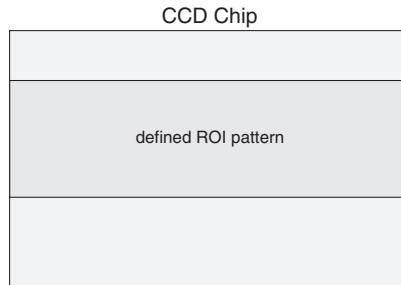
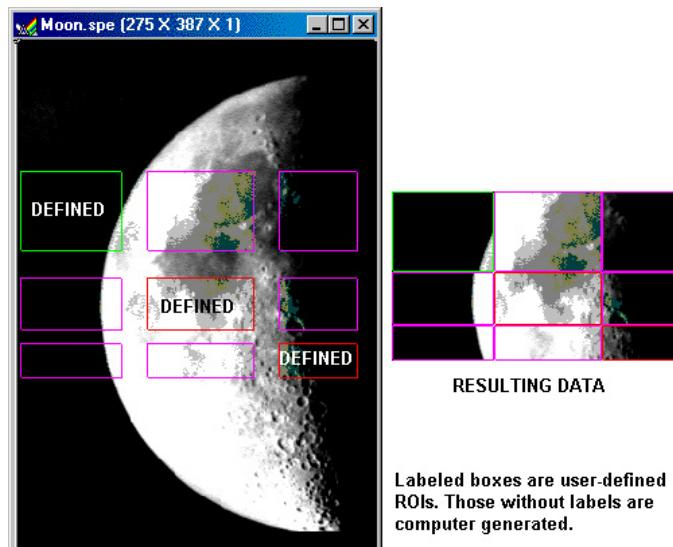

Figure 116. Single Full-width ROI
Figure 121. Multiple Imaging ROIs and Resulting Data
2. Once the first pattern is defined, all subsequent patterns are automatically assigned the same X-axis starting, ending, and grouping values. The first pattern need not be full width — any values in the chip range can be entered, but once stored, those values will apply as well to subsequently defined patterns. The figures below illustrate possible ROI patterns. Note the additional functionality available in Imaging Mode (Figure 116).
In this mode, ROIs can have varying sizes and degrees of overlap. However, when you define multiple ROIs like those in Figure 116, the computer automatically generates six “side-effect” ROIs in the regions where *extensions* of the strips and columns of the defined ROIs intersect. Both the defined and computer generated ROIs will be stored and the data for both will be displayed (see Figure 121). The side-effect ROIs are necessary to accommodate hardware limitations.